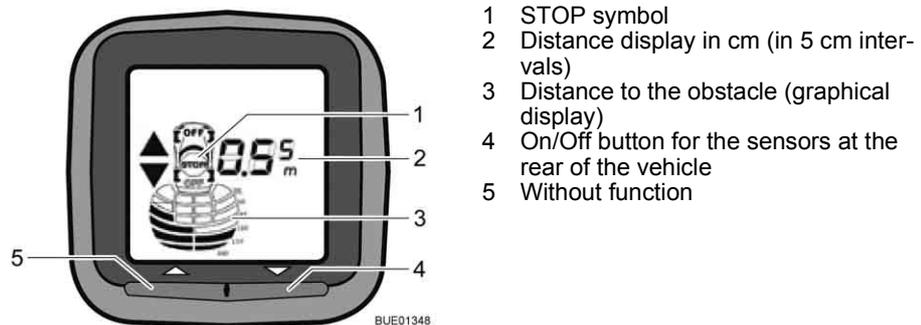

Fig. 15 Park Boy V display unit
In the passenger compartment, a display unit (Fig. 15) shows the distance to the obstacle. At the same time, an acute signal sounds as a warning.
- Press the On/Off button (Fig. 15,4). The display illuminates and the vehicle symbol appears in the display. The parking distance control is ready to measure.
- Press the On/Off button (Fig. 15,4). The parking distance control can be switched off at all times independent of the selected switch-on method using the On/Off key.
The distance between the vehicle and the obstacle is issued in three ways: The display (Fig. 15) shows the distance in steps of 5 cm. The shortest distance measured by a sensor is shown.